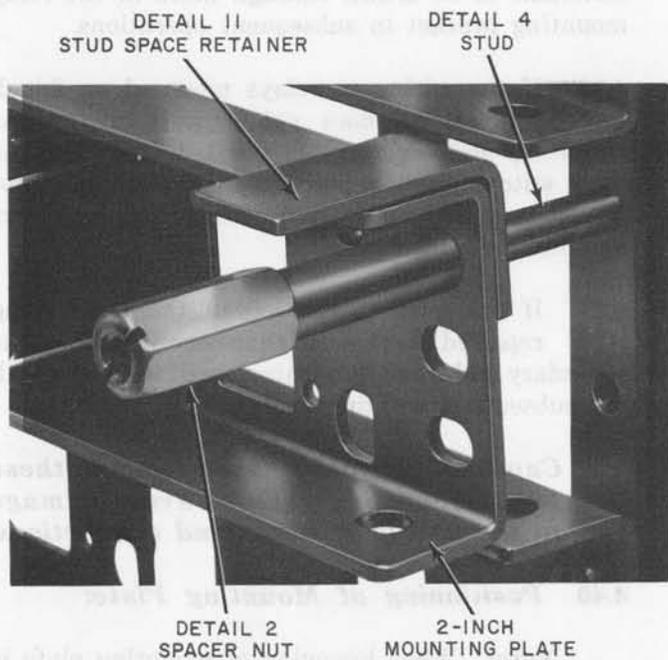

Fig. 13—Detail 4 Stud in Place With Detail 11 Stud Space Retainers
(b) Remove the upper mounting plate screws, and loosen the lower screws several turns. Insert the short thread end of the detail 4 studs through the upper mounting holes at both ends, and screw into frame as shown in Fig. 13.
- (f) Insert the detail 11 stud spacer retainers behind the mounting plate into the grooves of the detail 4 studs as shown in Fig. 13.